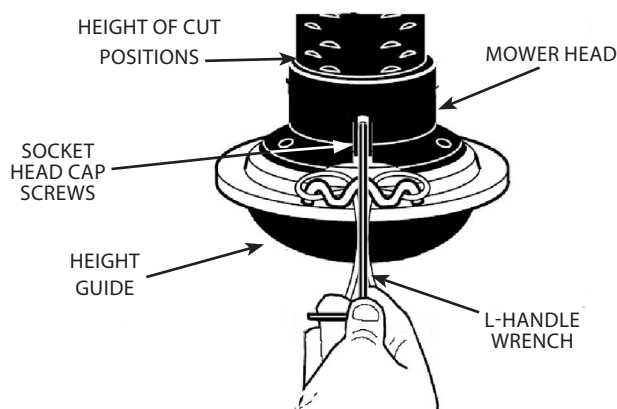

FIGURE 19: Setting the height of your cut.
The height of the cut can be set from 1-1/2 inches to three (3) inches. The recommended cutting height for the average yard is two (2) inches. **SEE FIGURE 19**